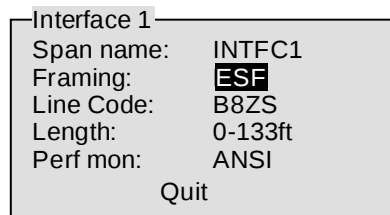

Figure 3-3
2. Press **Enter**. The **Interface Configuration Menu** is selected, and the message "Quit" at the bottom. Initially, the **Framing Field** on **interface 1** is highlighted. (See **Figure 3-3**)